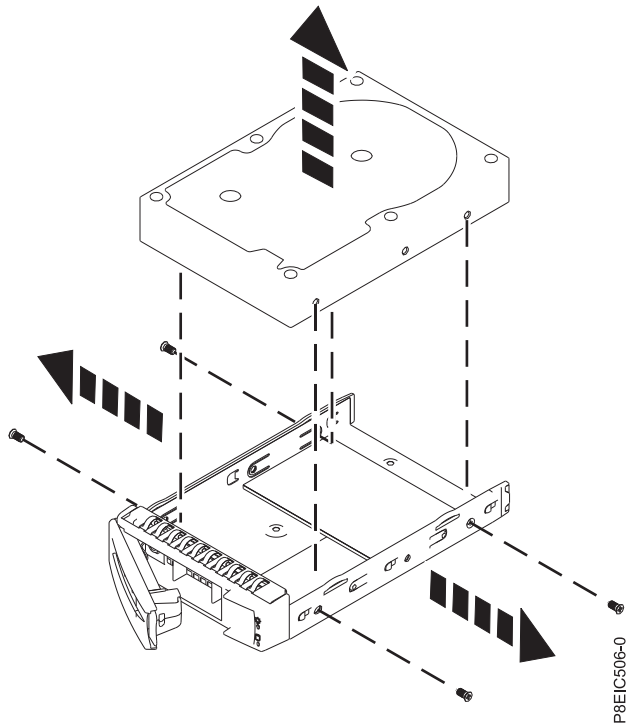

Figure 57. Removing the 3.5 inch drive from the tray
- For a 3.5 inch drive, unfasten the drive from the sides of the tray by removing four screws (2 on each side), as shown in Figure 57 on page 88.